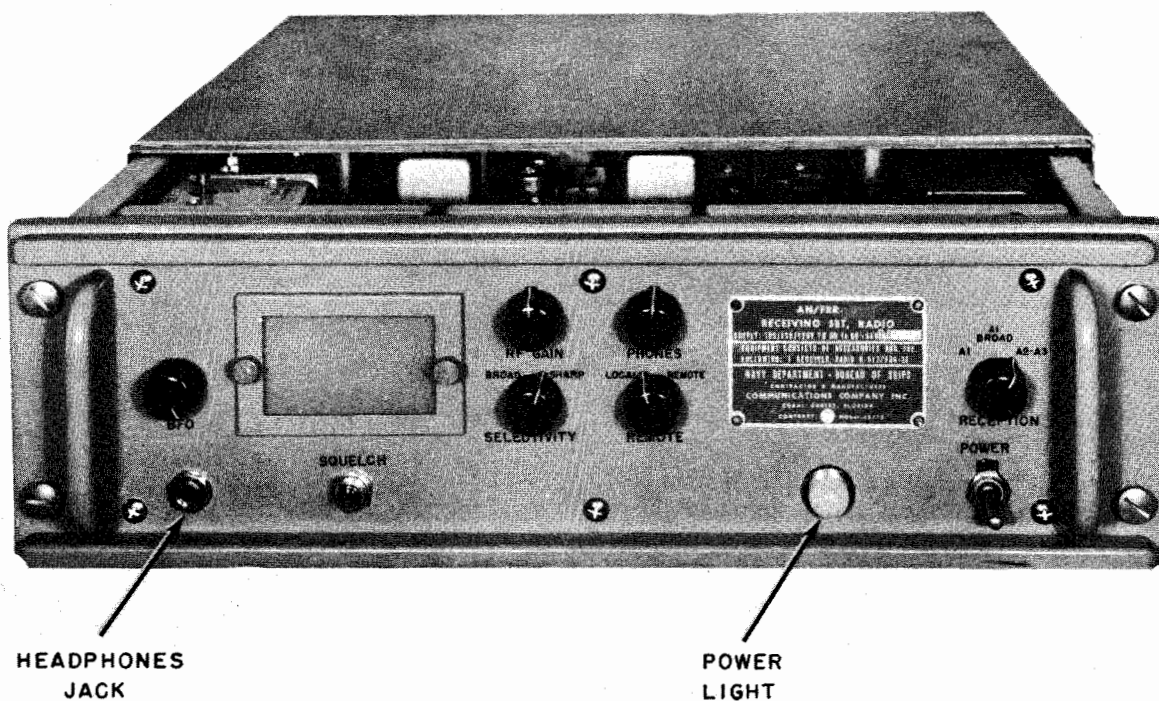

Figure 1-2. AN/FRR-31 Radio Receiver, Front Top View, Unit Slid out of Case
c. PANEL-FRAME ASSEMBLY.—Figures 1-2, 1-5 and 1-6 show this assembly. The panel mounts two handles, which are used to pull the panel-frame assembly from the case and for carrying purposes. Across the top and bottom of the panel are provided blister bars to minimize accidental movement of the panel controls. The panel also has two controls with clutches which must be disengaged prior to removing either the IF or the Audio/Power Supply chassis. The panel and case are finished with gray enamel. The panel mounts a card holder for the frequency chart card and also the identification plate. Four Simmons fasteners, one on each corner of the front panel, lock the panel-frame in place when it is inside the cabinet. Behind the front panel, mounted on a shelf, are three receptacle connectors which engage the plug-in chassis connectors. Twelve threaded standoffs are attached to the frame shelves for use in fastening the plug-in chassis by means of captive screws in the chassis units. A hole in the rear of the frame assembly permits the J504 receptacle of the cabinet assembly to engage the mating connector of the Audio/Power Supply chassis. A smaller hole in the back of the frame assembly allows the slotted shaft of the frequency band switch to be accessible for selection.